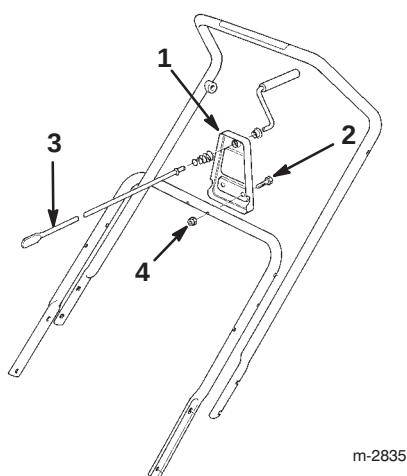

Figure 2
Remove the 2 hex-head bolts and locknuts that hold the chute crank support to the lower handle, and remove the chute crank assembly from the handle (Fig. 2).
- Insert the chute crank assembly through the hole in the upper shroud, ensuring that the end of the crank assembly seats correctly in the face gear (Fig. 2).
- Fasten the chute crank support to the lower handle with 2 hex-head bolts and locknuts (Fig. 2).